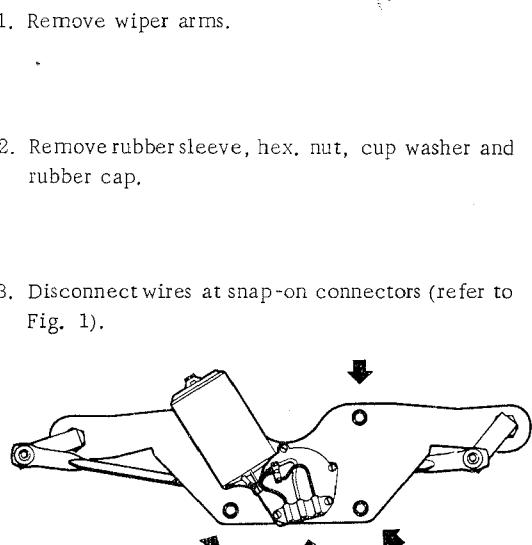

Fig. 1
5. Remove the 3 retaining nuts and withdraw support bracket with wiper motor (refer to Fig. 1).